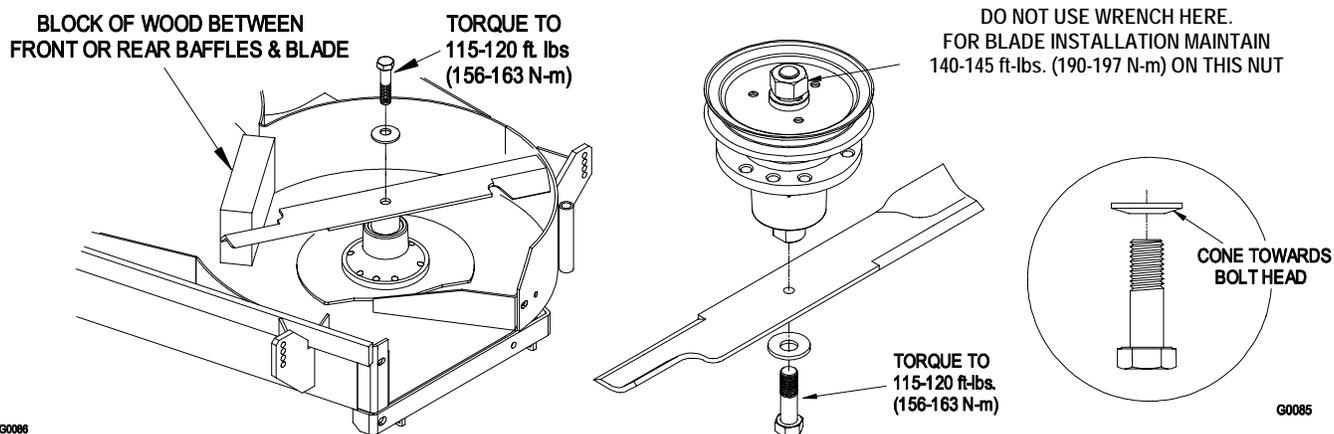

FIGURE 5
- d) Re-install the blades (if they were removed) by placing a block of wood between the front or rear baffles and the blade then torquing the blade bolts to 115-120 ft. lbs. (156-163 N-m). Be sure the spring disk washer cone is installed toward the bolt head. See Figure 5.